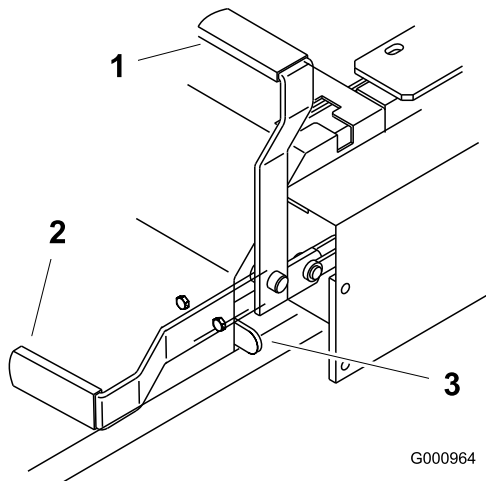

Figure 12
2. Pull up and back on the parking-brake lever to set the parking brake (Figure 12). The parking-brake lever should stay firmly in the ENGAGED position.
Push forward and down on the parking-brake lever to release the parking brake (Figure 12). The parking brake is disengaged and the lever rests against the brake stop.